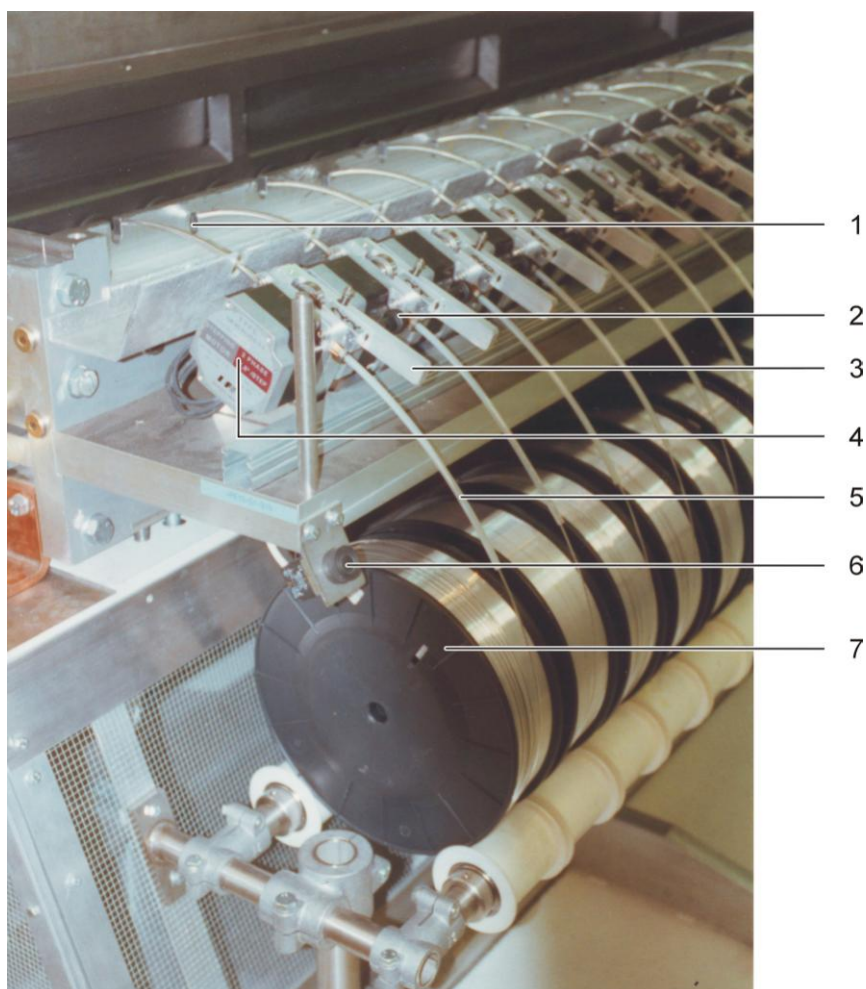

Fig. 6- 14 Loading the wire feed unit
- Select the gasinlet at the screenpage "Parameters" (see Fig. 6- 10).
- The angle valve is triggered, as soon as the coating window opens. After that the gasflow must be set with the needle valve at the outside of the recipient plate (see Fig. 6- 13).